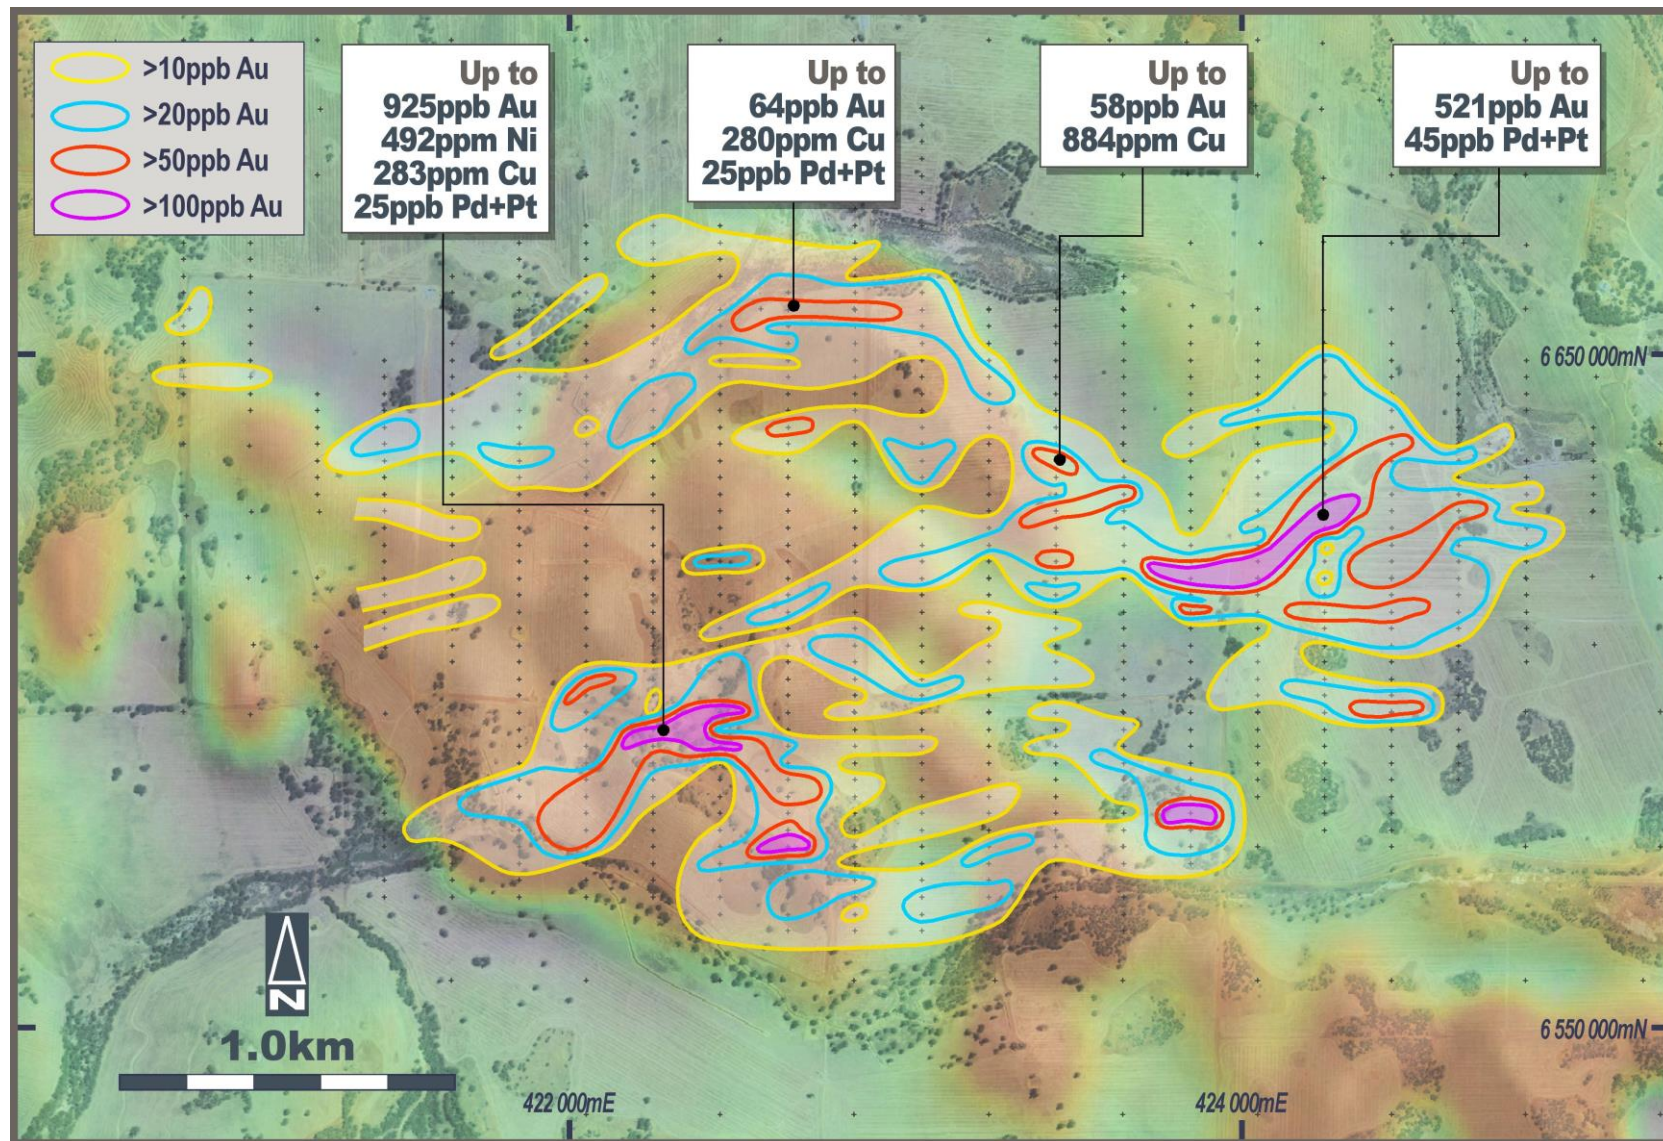

Figure 5: Moora Project/Mt Yule Prospect: Aerial photograph over coloured magnetic image showing auger anomalies
- **Mt Yule (Figure 5)** – a 3.6 x 2.2km, E/W trending gold anomaly (>10ppb) containing multiple plus 100ppb zones with a number of >500ppb Au assays (up to 925ppb). The gold anomalism is associated with highly elevated PGEs (up to 25ppb Pd+Pt), nickel (up to 492ppm) and copper (up to 884ppm).